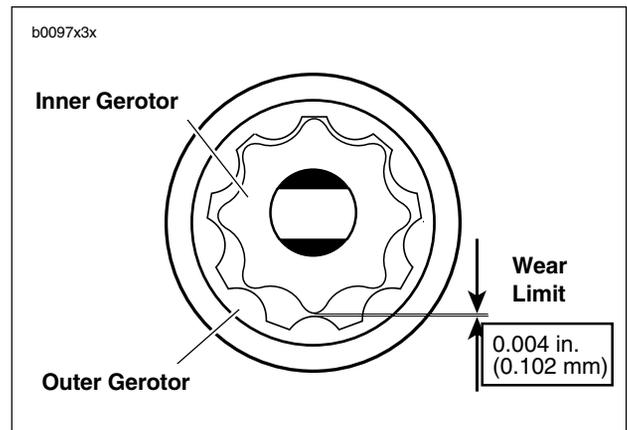

Figure 3-56. Gerotor Wear Limits
- See Figure 3-56. Inspect both gerotor sets for wear.